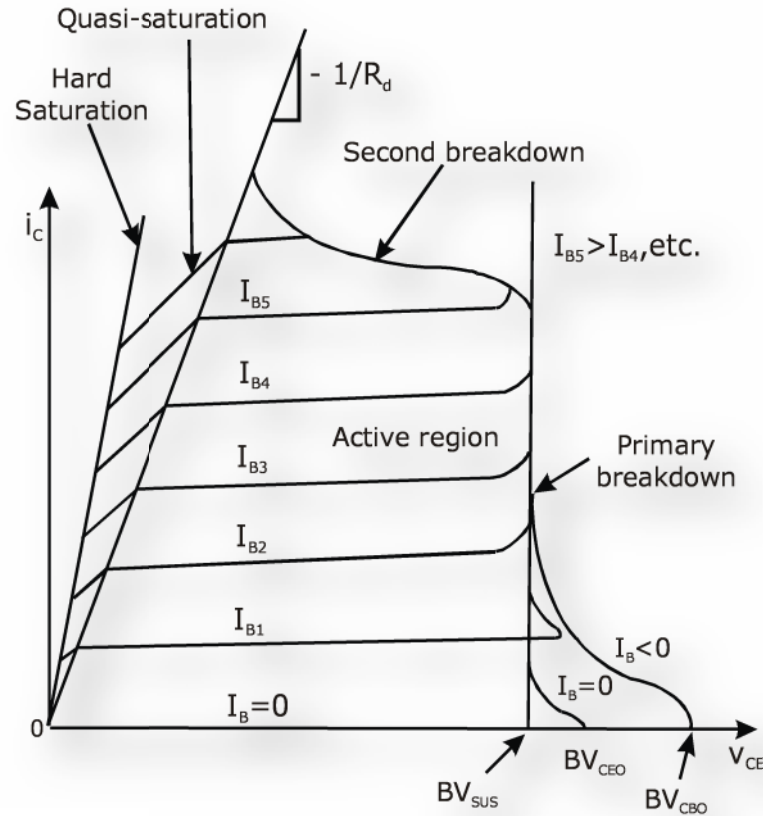

Fig. 5: Characteristics of NPN Power Transistors
A Bi-Polar Junction Transistor is a 3 layer, 3 terminals device. The 3 terminals are base, emitter and collector. It has 2 junctions' collector-base junction (CB) and emitter-base junction (EB). Transistors are of 2 types, NPN and PNP transistors. The different configurations are common base, common collector and common emitter. Common emitter configuration is generally used in switching applications. The power transistor has steady state characteristics almost similar to signal level transistors except that the V-I characteristics has a region of quasi saturation as shown by figure 5.